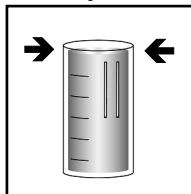

Figure 2
2. Fill the dilutor snapper cup to the -ml- mark with **distilled water** (fig. 2).